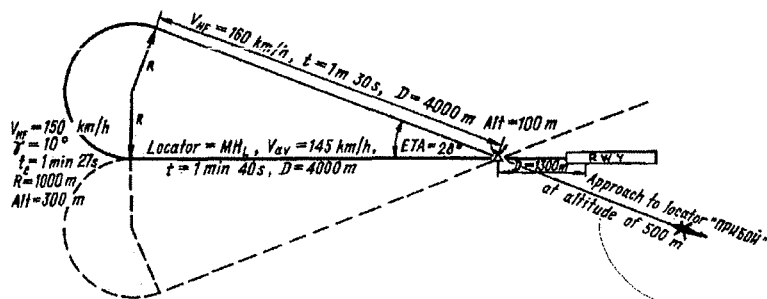

Fig. 4.7 Straight-In Teardrop Approach
- (2) During straight-in teardrop approach (Fig. 4.7) fly to the LMM at a selected height. After passing the LMM, upon the Pilot-Navigator's order execute RH or LH turn-away through an estimated angle with the drift angle accounted for and continue flying on this heading until turn at the estimated point. Upon expiration of the estimated time of horizontal flight (HFT) proceed to descent at an airspeed of 150 km/h and a vertical speed of 2 to 3 m/s, turn to the landing heading at a bank angle of 10° and an altitude loss of 200 m. In final descent account for the drift angle, maintain the desired condition of flight and avoid sideslipping and skidding.